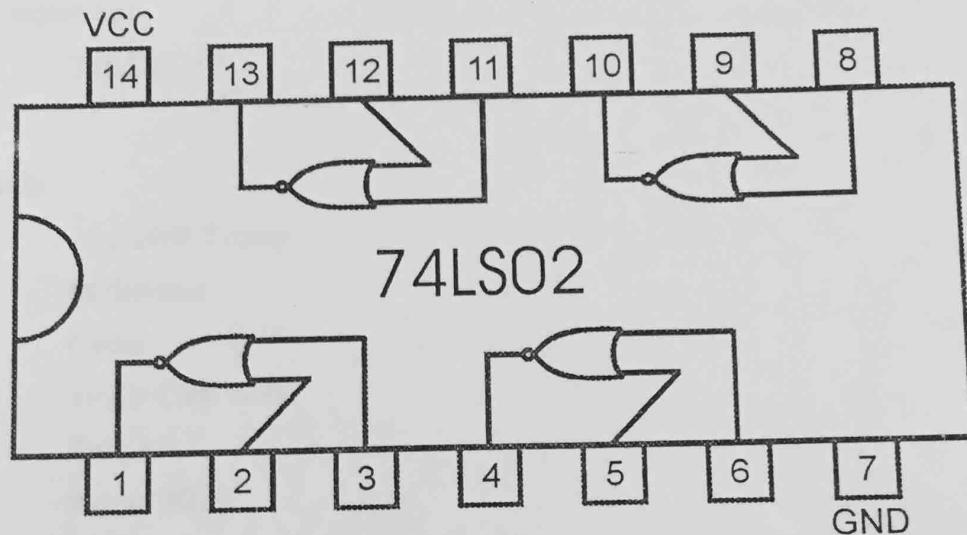

Figure 6.2
4. Wire the circuit according to the diagram in fig. 6.1 by consulting NOR gate IC's data sheet in fig. 6.2.